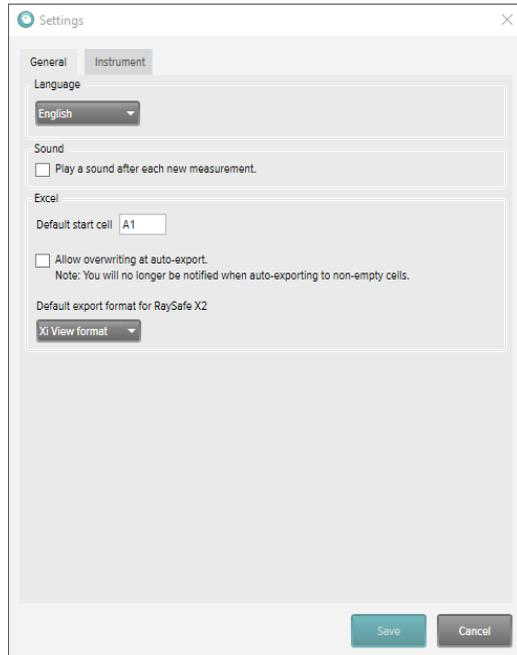

Figure 13. Settings window, General tab.
**TIP!** You can change the default export format for RaySafe X2 in Settings (Figure 13 on page 15).